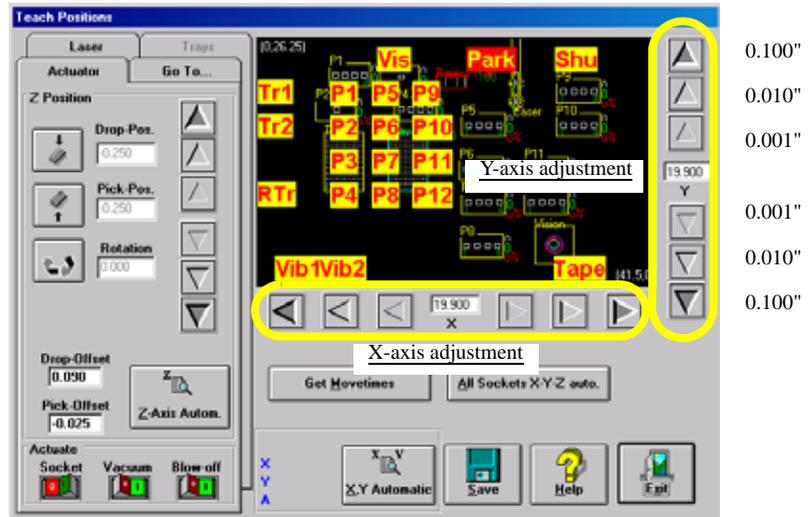

Figure 3-57—Teach Positions window
- 1f) On the System window, click **Gantry** to open the Teach Positions window. The Teach Positions window displays a graphic representation of the work surface, including yellow position labels for all locations in the work envelope. The Teach Positions window also includes Y-axis and X-axis adjustment arrows. See *Figure 3-57*.
- 2a) Adjust the location of the probe tip so that it is centered on the device. Use the up/down arrows for Y-axis adjustments and the left/right arrows for X-axis adjustments. From the inside working outward, the arrow buttons adjust the positional value  $\pm 0.001$ ,  $0.010$ , and  $0.100$  inches respectively. See *Figure 3-57* above.